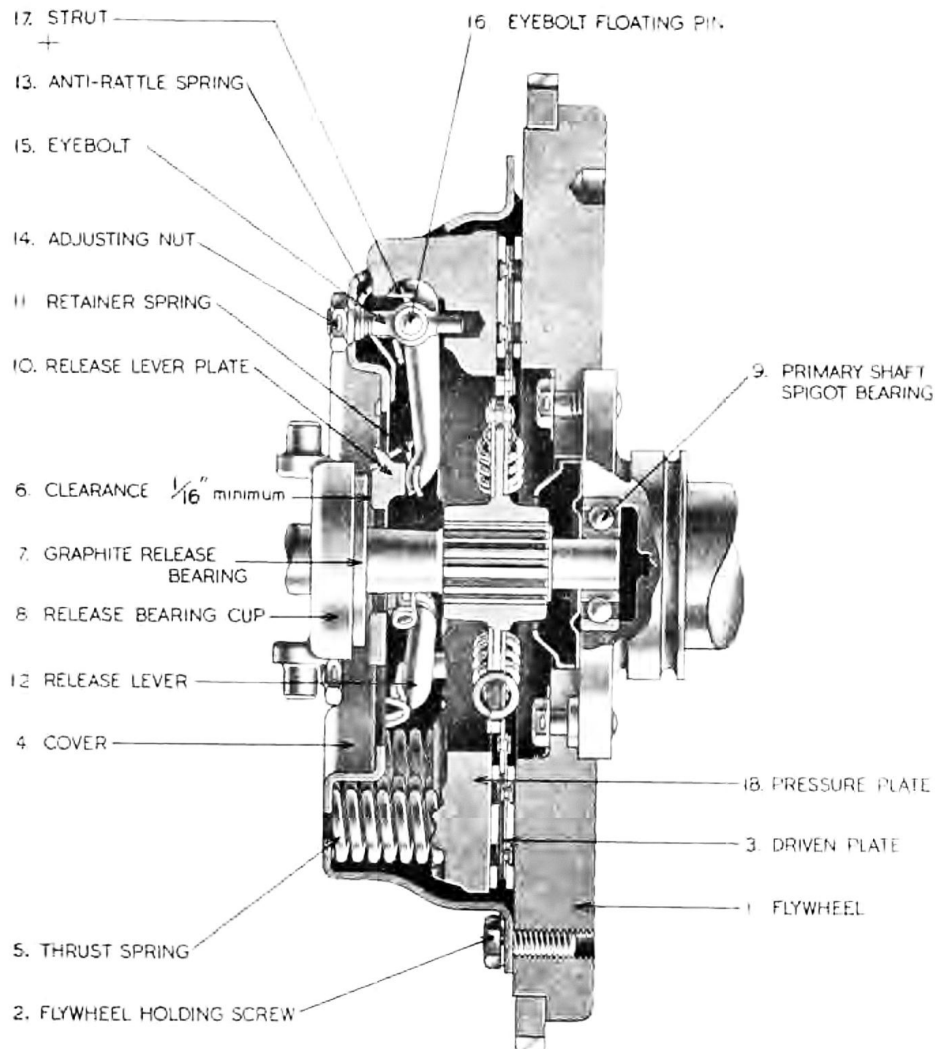

Fig. 48.—CLUTCH ASSEMBLY.
#### THE CLUTCH (Fig. 48)
**Withdrawal Mechanism. (See Fig. 48)**
A recess in the primary shaft gear forms the outer race of the flexible roller bearing at the end of the mainshaft. The opposite end of the primary shaft when the gearbox is in position on the vehicle, locates in the ball bearing fitted in the end of the crankshaft. The splines formed on the shaft adjacent to this bearing location, engage the clutch driven plate and transmit power from the clutch to the gear box. (See Fig. 48.) The primary shaft is located by a ball bearing housed in the gearbox wall, and an oil seal is provided at this point to prevent the escape of lubricant into the clutch housing.